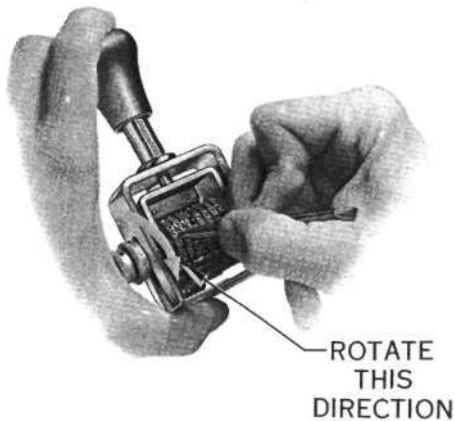

Fig. 2 - Setting First Two Wheels
- (1) Hold numbering machine so that the part that says FRONT faces you.
- (2) Hold a slight downward pressure on the handle so the number wheels will not drag across felt pad as they are rotated.
- (3) The first two wheels must be moved with the plastic stylus. Turn the wheels in a downward direction only (Fig. 2). Set both wheels so the "5" will print. It will print when it is directly above felt pad.